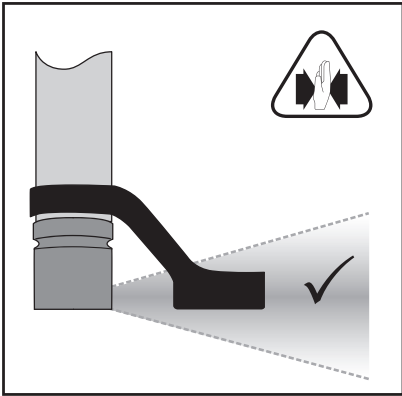

Figure 3A
- The standard reaction bar is designed to provide the ideal fixed reaction point when used with a standard length socket. See Figure 3A.